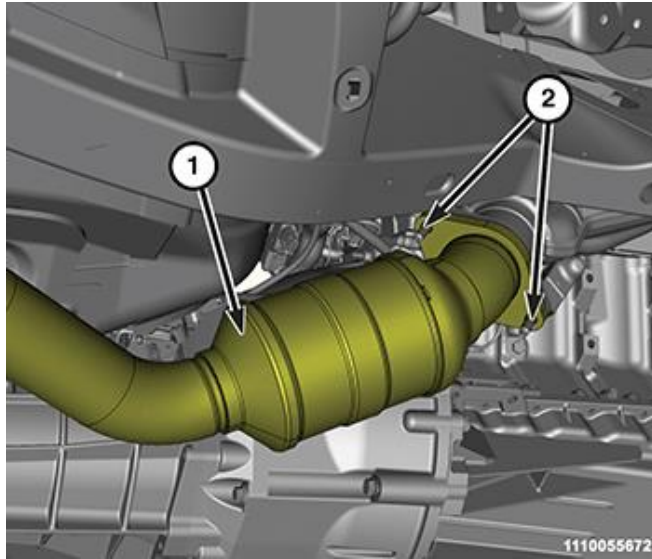

Figure 7 – Flange Nuts
12. Remove the catalytic converter to manifold flange nuts (2) and separate the catalytic converters (1) from the exhaust manifolds (Figure 7).
18. Tighten the catalytic converter (1) to exhaust manifold flange nuts (2) to 30 N·m (22 ft. lbs.) (Figure 7).